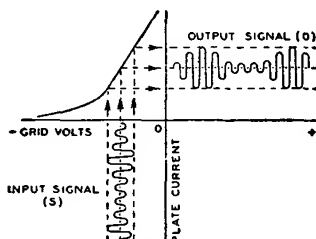

Fig. 13
As a class A voltage amplifier, an electron tube is used to reproduce grid voltage variations across an impedance or a resistance in the plate circuit. These variations are essentially of the same form as the input signal voltage impressed on the grid, but of increased amplitude. This is accomplished by operating the tube at a suitable grid bias so that the applied grid-input voltage produces plate-current variations proportional to the signal swings. Since the voltage variation obtained in the plate circuit is much larger than that required to swing the grid, amplification of the signal is obtained. Fig. 13 gives a graphical illustration of this method of amplification and shows, by means of the grid-voltage vs. plate-current characteristics curve, the effect of an input signal (S) applied to the grid of a tube. O is the resulting amplified plate-current variation.